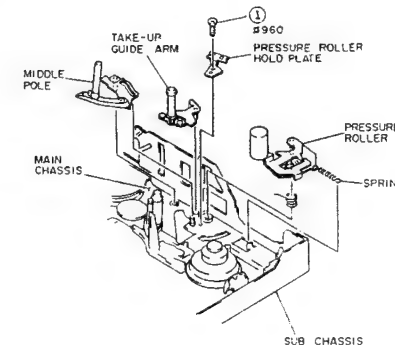

Fig. 2-54
- 1) Remove one (1) screw holding the pressure roller hold plate. (See Fig. 2-54)
(1) Pressure Roller
- 3) Release the spring between the pressure roller and sub chassis. (See Fig. 2-54)
(2) Take-up Guide Arm, Middle Pole
- 3) Pull out the take-up guide arm from the sub chassis. (See Fig. 2-54)
- 5) Pull out the middle pole from the main chassis. (See Fig. 2-54)